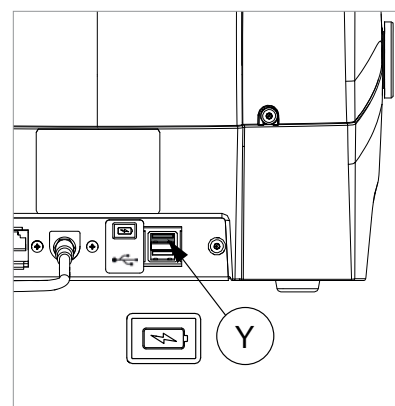

Fig. 17
- 1) Connect the tablet to a power source by means of its power pack in order to charge it (3 hours for the first charge). The tablet can also be charged connected to the specific USB port (Y) on the back of the machine (Fig. 17, pag.12).